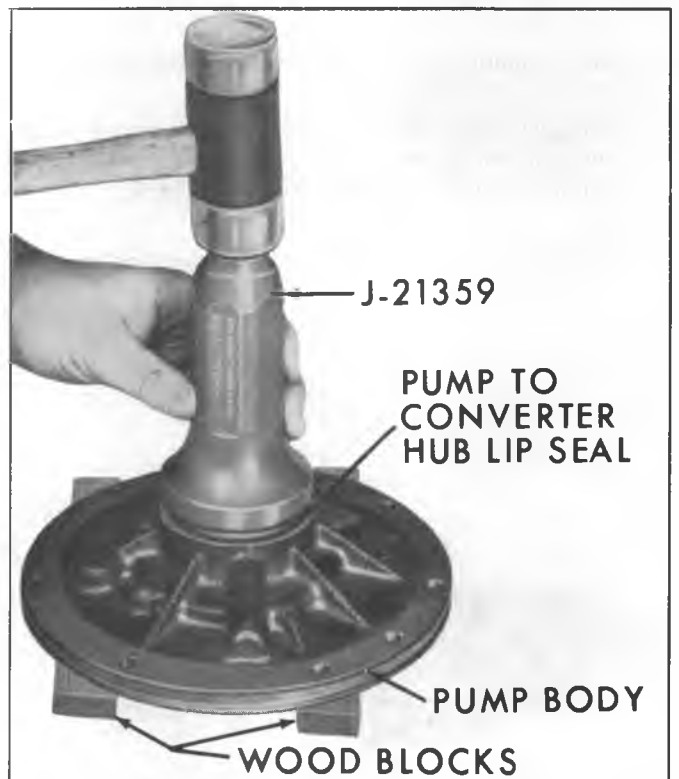

Fig. 63M--Installing Hub Lip Seal
6. If hub lip seal is damaged or is leaking (and the pump body is otherwise suitable for reuse), pry out and install a new seal, fully seated in counterbore, using Seal Driver J-21359 (fig. 63M).
7. Install twenty (20) clutch return springs.
8. Install spring retainer and install five (5) attaching bolts.
11. Install pump to converter hub lip seal using seal installer J- 21359 (fig. 63M).